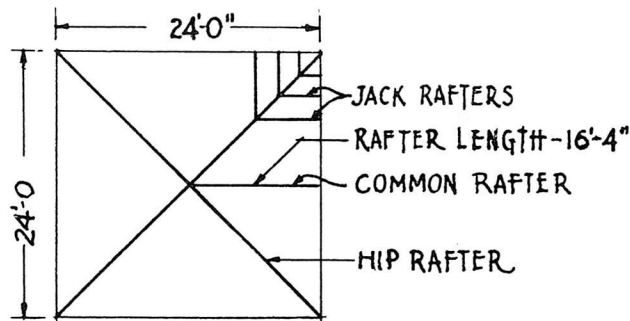

Fig. 6
3. What is the area of the square hip roof shown in Figure 6?